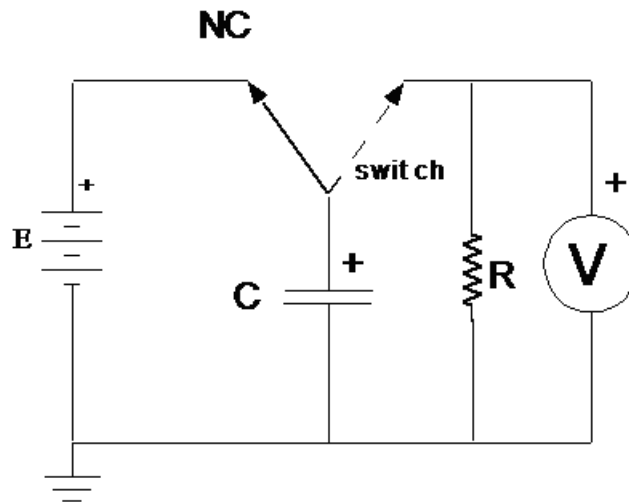

Figure 13
1. Connect the circuit in Figure 13.  $R$  represents a 68,000 ohm resistor. Set the power supply to about 19 volts, using its own voltmeter. (Do not exceed 25 volts, the rating of the capacitor.)